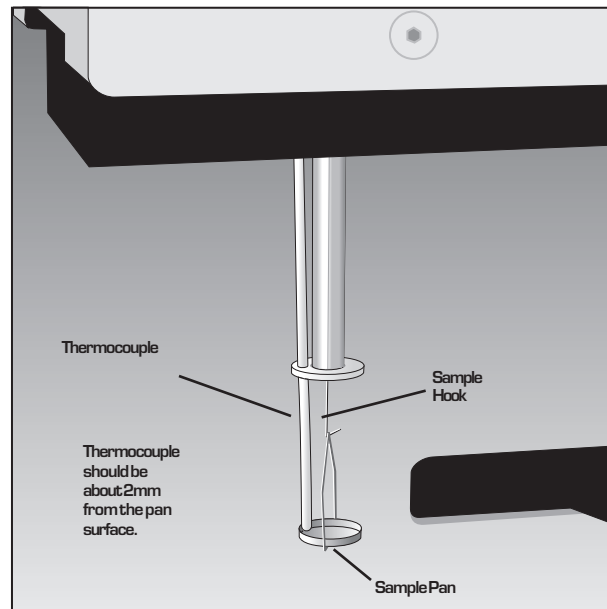

Figure 3.3
3. Position the thermocouple at the edge of the sample pan, rather than in the middle, for best results (Figure 3.3).